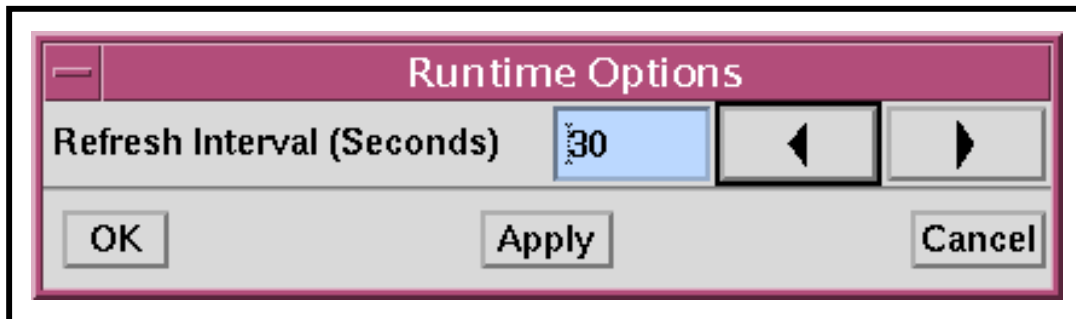

Figure 58. Runtime Options Dialogue Box for the JobScope GUI
- Figure 58 shows the **Runtime Options** dialogue box for the JobScape GUI.